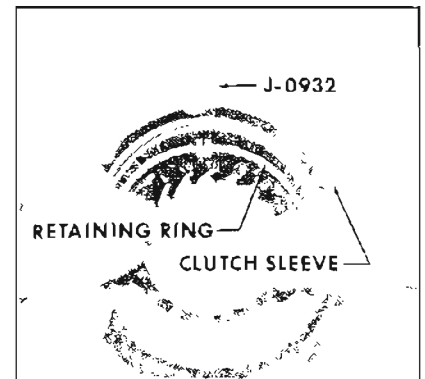

Figure 4-30—Installing Synchronizing Rings
**CAUTION:** Make sure the retainers are seated in the groove all the way around the ring, so that the ring can turn freely. See Figure 4-30.